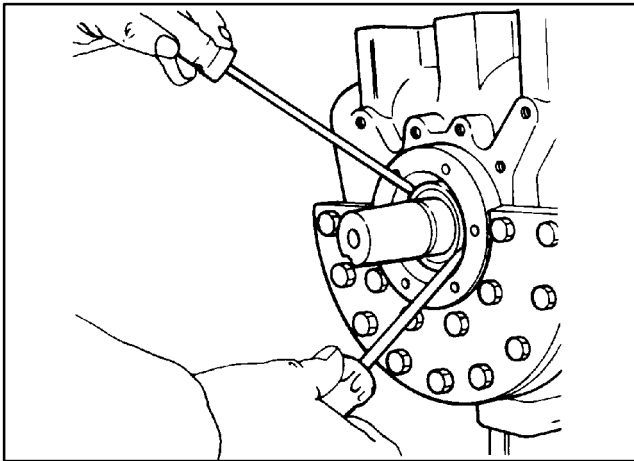

Figure 3-8. Shaft Seal Removal
- c. Using two long screwdrivers, pry out the shaft seal but do not damage the gasket surface or the crankshaft. (See Figure 3-8)